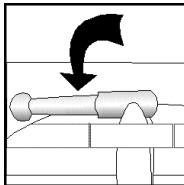

Figure 25
2. Turn toggle so that it lies parallel to the white webbing. **See figure 25.**